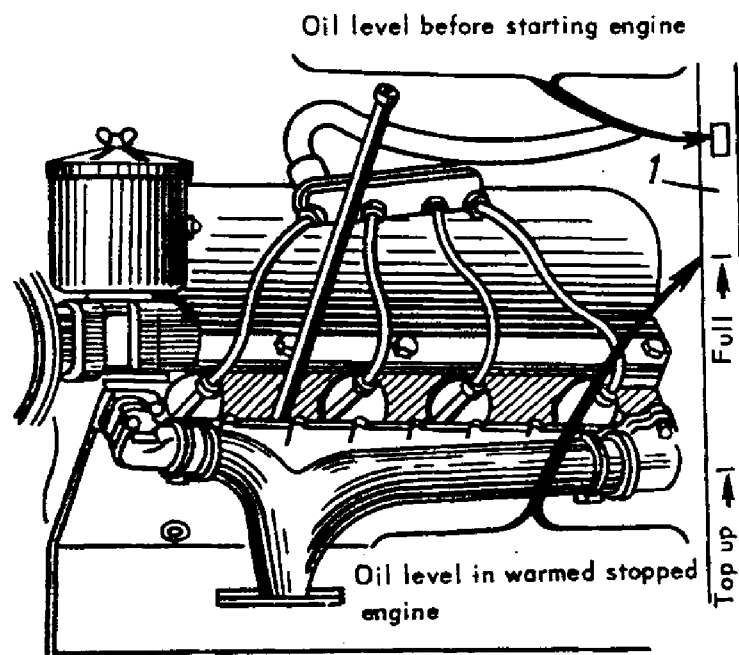

FIG.5. CHECK MARKS ON OIL LEVEL DIPSTICK 1
6. Check the oil level in the engine crankcase (Fig.5). Check the coolant level in the radiator. The coolant level should be 40 to 50 mm below the top edge of the filler neck,
8. Check the oil level (Fig.5) in the engine crankcase and coolant level in the radiator. If needed, add the oil and coolant and eliminate faults detected during the inspection.